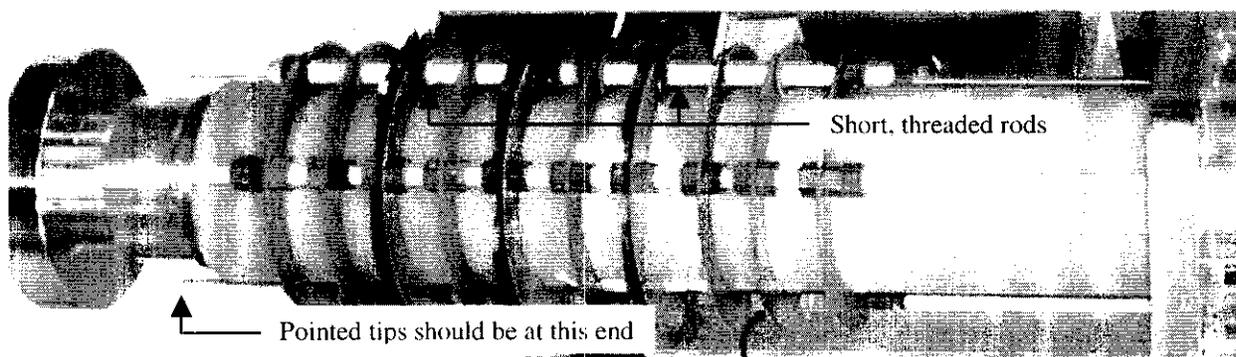

Figure 1.13 A baffle installed on a power lead.
- 1.13 Install the baffle on the lead with the pointed tips of the threaded rods pointing toward the bottom of the lead. An installed baffle is shown in Figure 1.13.